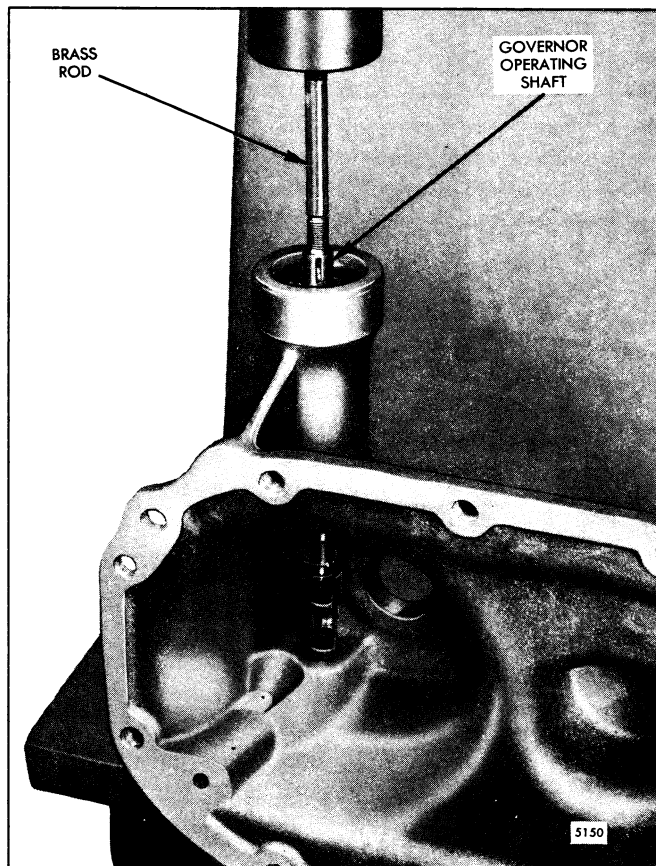

Fig. 13 - Removing Operating Shaft From Weight Housing Upper Bearing
- a. Remove the Woodruff key (35) from the operating shaft (39).
- b. Remove the two spacers (36) and snap ring (38) from the operating shaft.
- c. Position the weight housing assembly in an arbor press (Fig. 13). Press down on the operating shaft (39) to remove the cup plug (42) from the bottom of the housing and the shaft from the upper bearing (37). Remove the upper bearing from the housing.